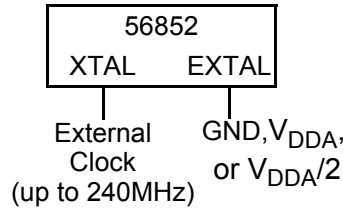

Figure 4-7 Connecting a High Speed External Clock Signal using XTAL
The recommended method of connecting an external clock is given in **Figure 4-7**. The external clock source is connected to XTAL and the EXTAL pin is held at ground (recommended), V_{DDA} , or $V_{DDA}/2$. The TOD_SEL bit in CGM must be set to 1.
1. See **Figure 4-7** for details on using the recommended connection of an external clock driver.